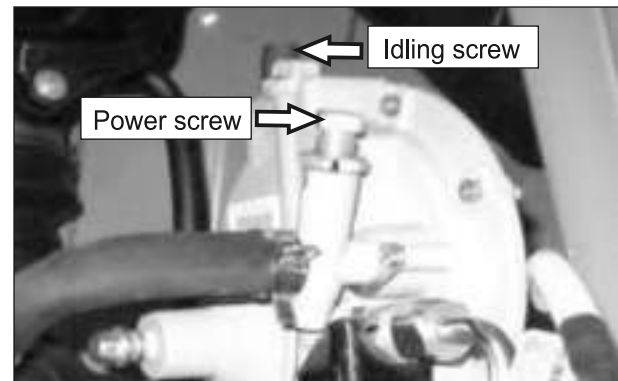

Fig. 2.47
- Close the power screw in the reducer unit and open it 10 turns out. (Fig. 2.47)
- Fully open the idling screw in the reducer unit and insert (screw) in its hole (thread) by 3 turns in. (Fig. 2.47)